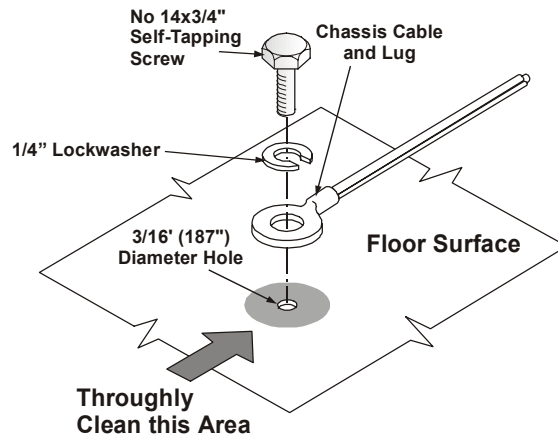

Figure 19. Wire Attachment to Chassis
1. It is recommended to attach the black (ground) wire to the vehicle's chassis. The point of attachment should be located as close as possible to the radio. Refer to Figure 19.